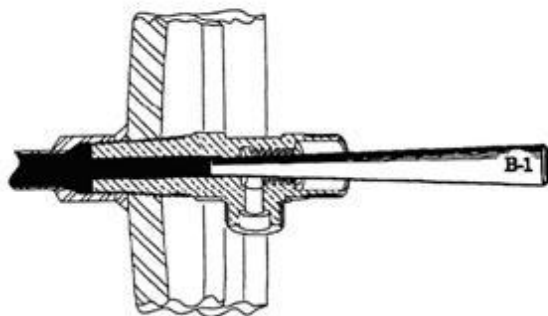

Fig 3.4.1
- A) Drive small DRIFT PIN B-1 (Fig 3.4.1) into valve body.